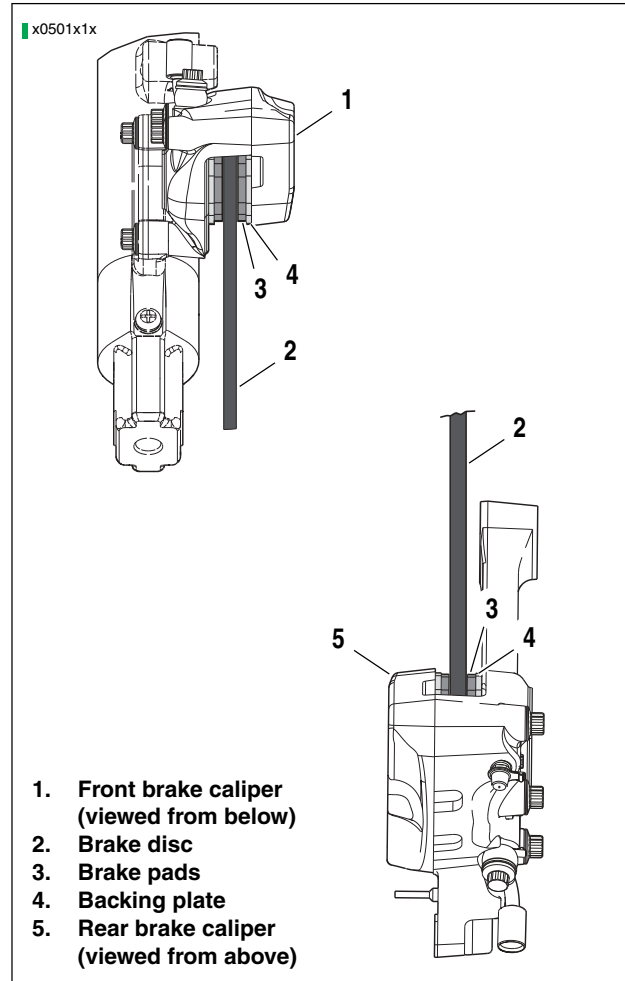

Figure 1-12. Brake Pad Inspection
See Figure 1-12. Replace brake pads (3) if brake pad friction material on either the front or rear caliper is worn to 0.04 in. (1.02 mm) or less above the backing plate (4). Always replace both pads in a caliper as a set. See BRAKE PAD REPLACEMENT below.